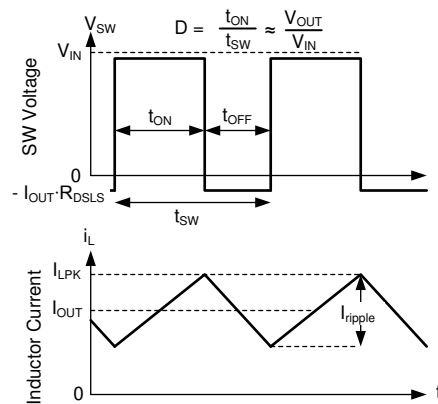

Figure 9-16. SW Voltage and Inductor Current Waveforms in Continuous Conduction Mode (CCM)
The following operating description of the LM61460-Q1 refers to Section 9.2 and to the waveforms in Figure 9-16. In CCM, the LM61460-Q1 supplies a regulated output voltage by turning on the internal high-side (HS) and low-side (LS) NMOS switches with varying duty cycle (D). During the HS switch on-time, the SW pin voltage, V_{SW} , swings up to approximately V_{IN} , and the inductor current, i_L , increases with a linear slope. The HS switch is turned off by the control logic. During the HS switch off-time, t_{OFF} , the LS switch is turned on. Inductor current discharges through the LS switch, which forces the V_{SW} to swing below ground by the voltage drop across the LS switch. The converter loop adjusts the duty cycle to maintain a constant output voltage. D is defined by the on-time of the HS switch over the switching period: